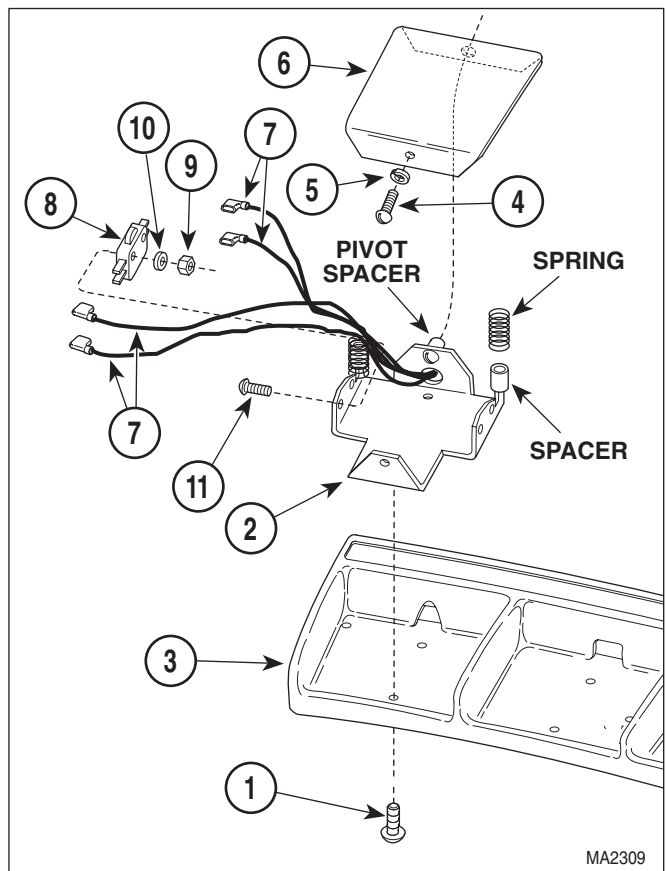

Figure 4-38. Typical Foot Switch Removal / Installation
- (1) Unplug table power cord from outlet.
- (2) Remove two screws (1, Figure 4-38) and partially separate foot switch bracket (2) from foot control casting (3).
- (3) Remove screw (4), spacer (5), and pedal (6) from foot switch bracket (2).
- (4) Tag and disconnect four wires (7) from terminals of foot switch (8).
- (5) Remove two nuts (9), washers (10), screws (11), and foot switch (8) from foot switch bracket (2).